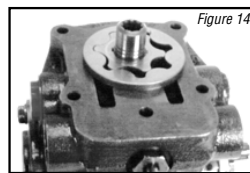

Figure 12
- 11** Turn the adapter assembly over. Use an o-ring pick or similar tool remove the o-ring seal (see Figure 12).